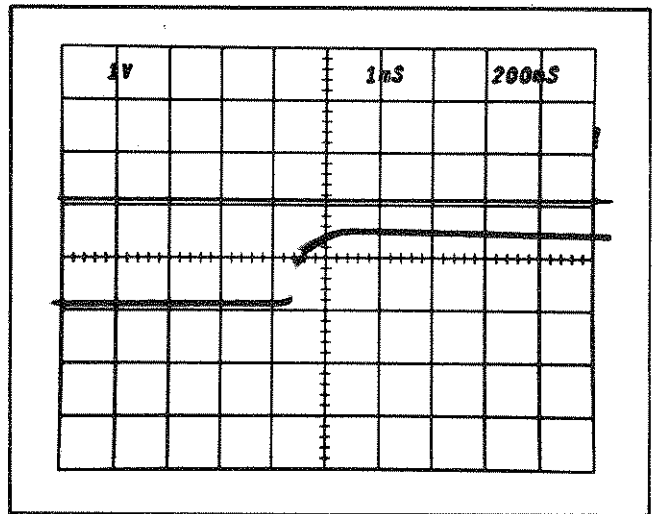

Fig. 5-14. CRT display showing delay time jitter.
c. CHECK—Jitter on the leading edge of the pulse does not exceed 1 division (1 part in 50,000 of 10 times the TIME/DIV setting). See Fig. 5-14. Disregard any slow drift.